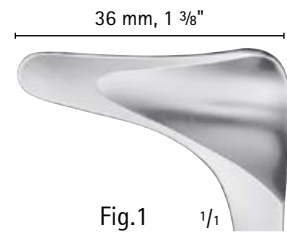

Fig.1 1/1
- OK081R** Fig. 1
- OK091R** Fig. 1